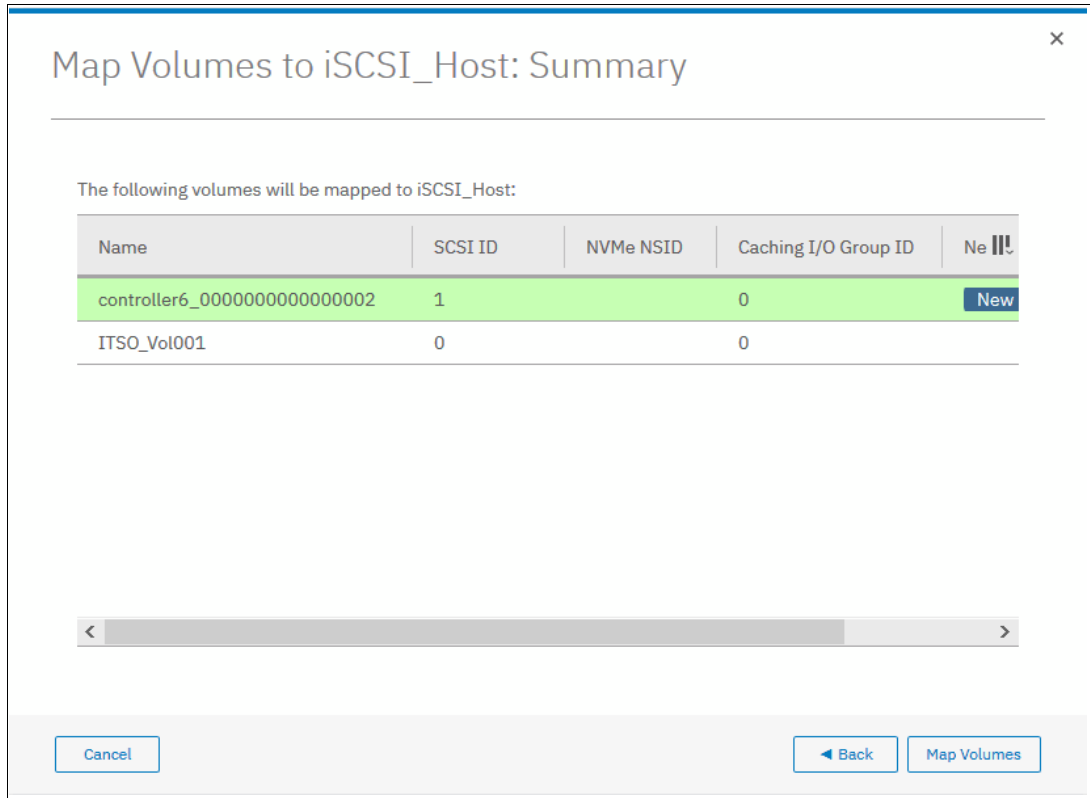

Figure 7-22 Mapping volumes summary
4. A confirmation window opens with the task summary, as shown in Figure 7-22. Click **Map Volumes** to finish the task and return to the Map Volumes to Hosts (optional) window.